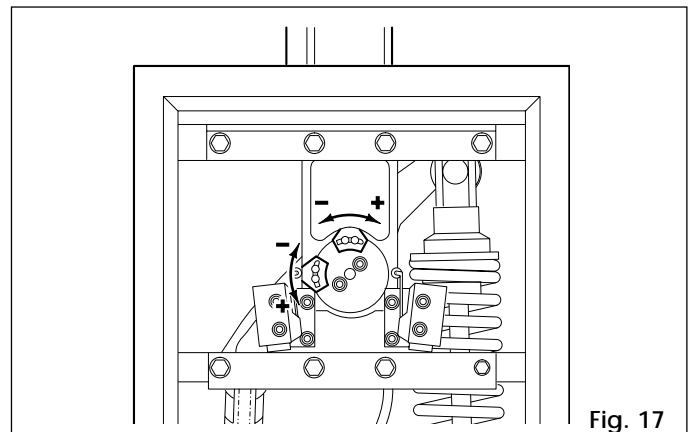

Fig. 17
- 2) Adjust the stroke limit cams by loosening the two Allen screws, as shown in Figure 17. To increase the deceleration angle, move the cam toward the limit switch. To decrease the deceleration angle, move the cam away from the limit switch.